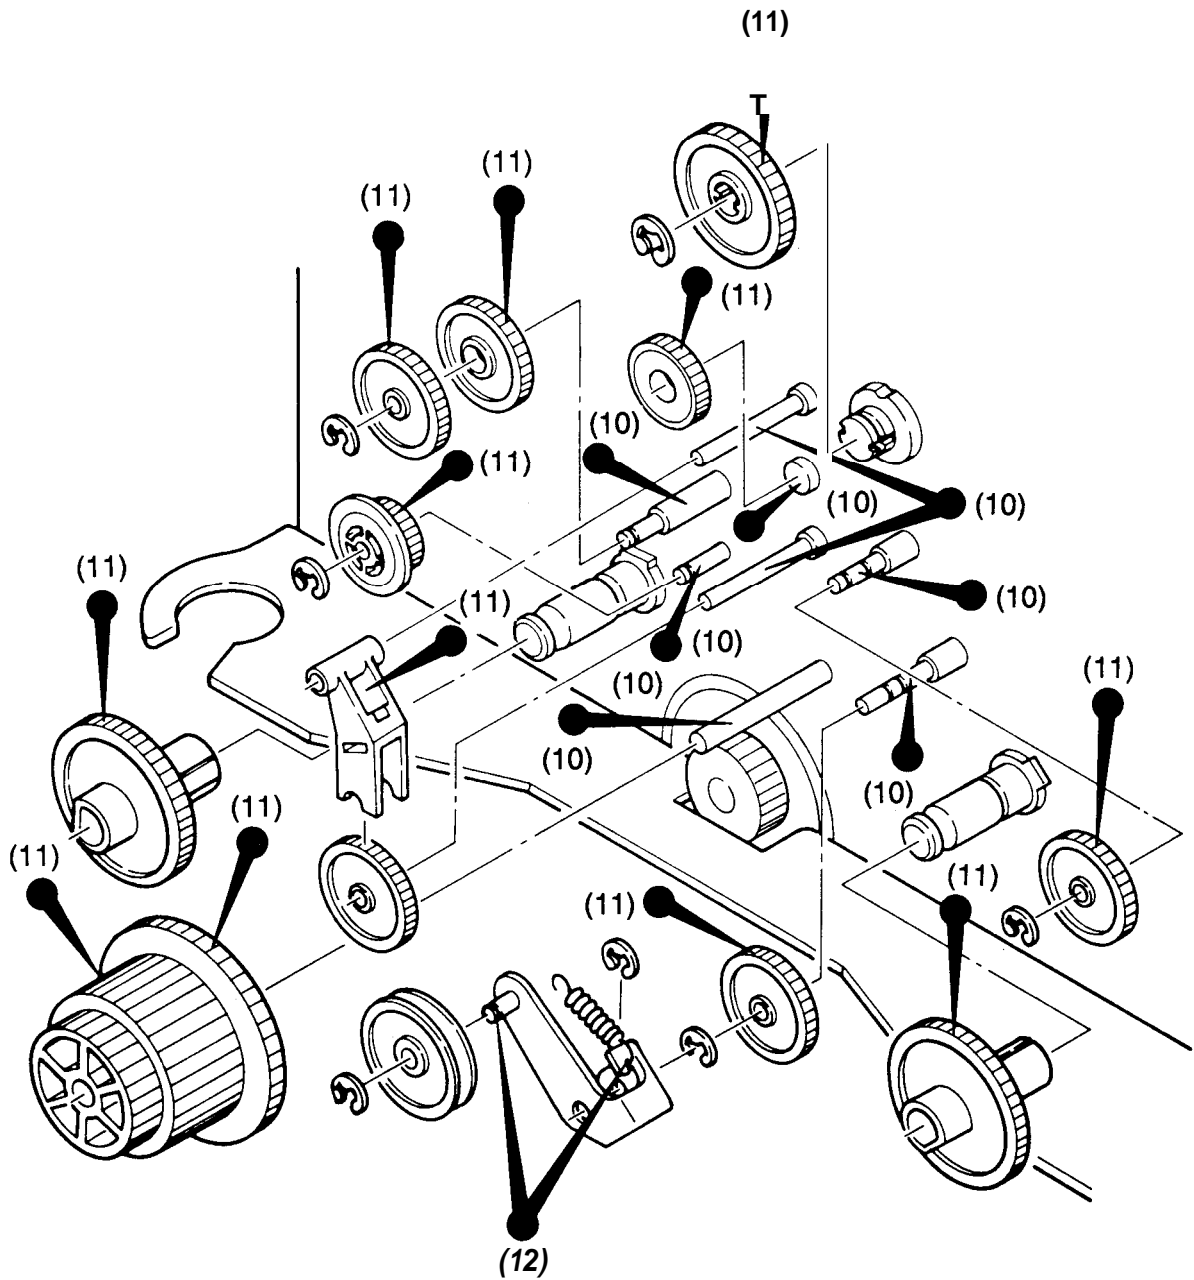

Figure 6-2. Lubrication and Adhesive Diagram 1
| Figure 6-2. Lubrication and Adhesive Diagram 1 . . . . . | 6-3 |
EPSON recommends that the printer be lubricated at the points illustrated in Figures 6-2,6-3, and 6-4 using EPSON lubricants 02 and G26. These lubricants have been extensively tested and found to comply with needs of the printer. Refer to Table 6-1 for information on lubricants 02 and G26. Table 6-2 lists the appropriate lubricant for each point. Make sure the parts to be lubricated are clean before applying lubricant. Also avoid applying too much lubricant because it may damage related parts.
Adhesive application is necessary at the points indicated in Table 6-3 when parts are disassembled or replaced. EPSON recommends Neji Lock #2 (G) adhesive be applied to the points indicated in Figures 6-2,6-3, and 6-4. Avoid allowing excess adhesive to overflow onto related parts.